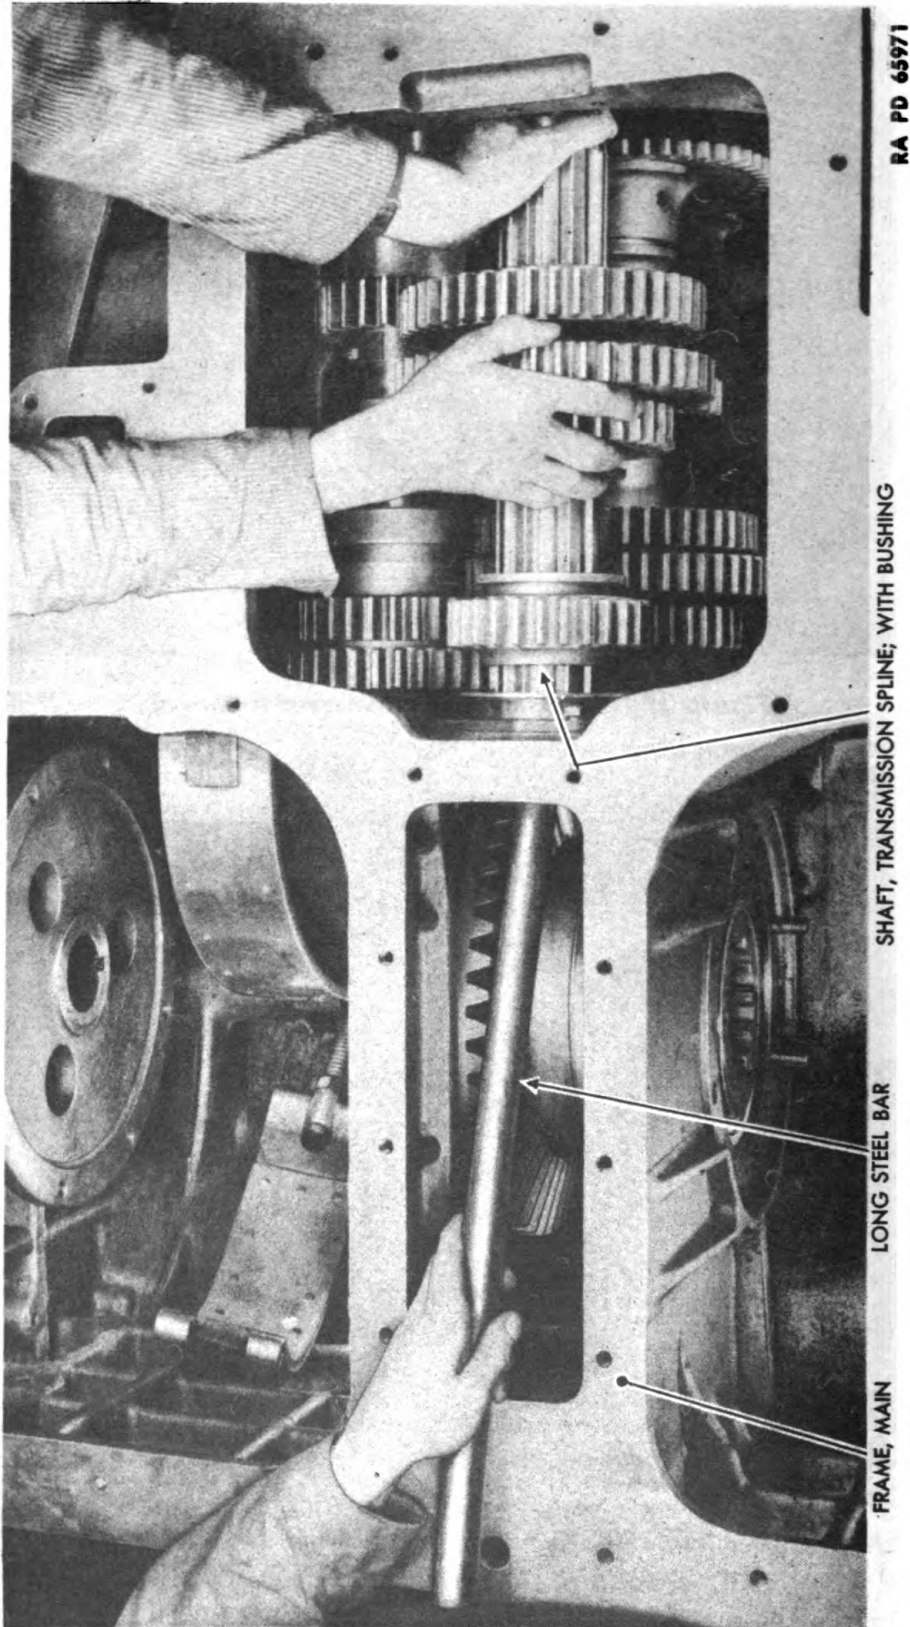

Figure 39 — Transmission Spline Shaft with Bushing Removal
(15) REMOVE TRANSMISSION SPLINE SHAFT WITH BUSHING (fig. 39).